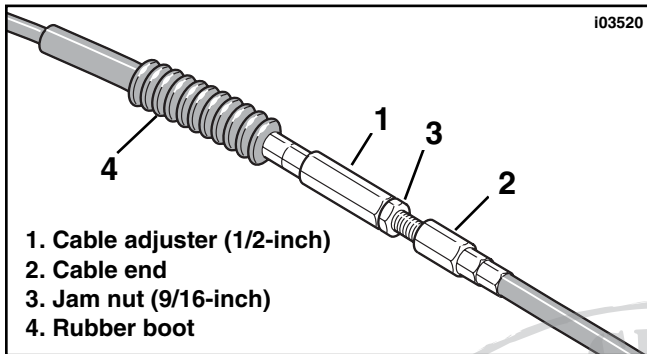

Figure 6. Clutch Cable Adjuster
- Loosen the clutch adjuster to obtain slack in the clutch cable (2) by performing the following:
- See Figure 6. Locate the cable adjuster (1) and slide off the rubber boot (4).
- While holding the cable adjuster with a 1/2-inch wrench, loosen the jam nut (3) using a 9/16-inch wrench.